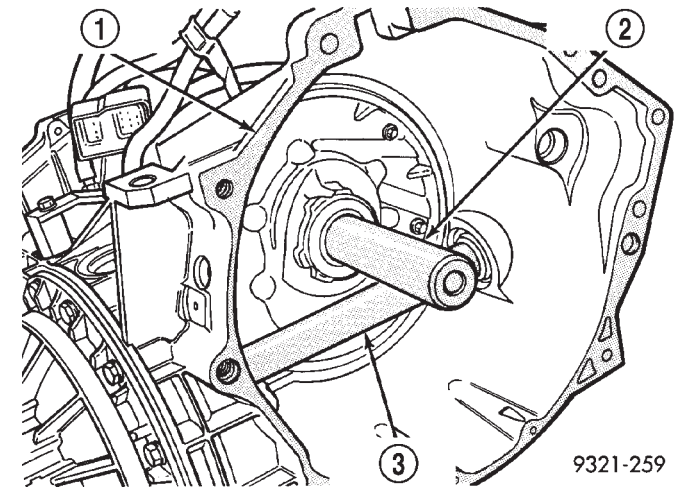

Fig. 106 Oil Seal Installation
- (1) Clean and inspect oil pump seal seat. Then install seal using special tool C-4193A (Fig. 106).
- (2) Clean and inspect torque converter hub. If nicks, scratches or hub wear are found, torque converter replacement will be required.